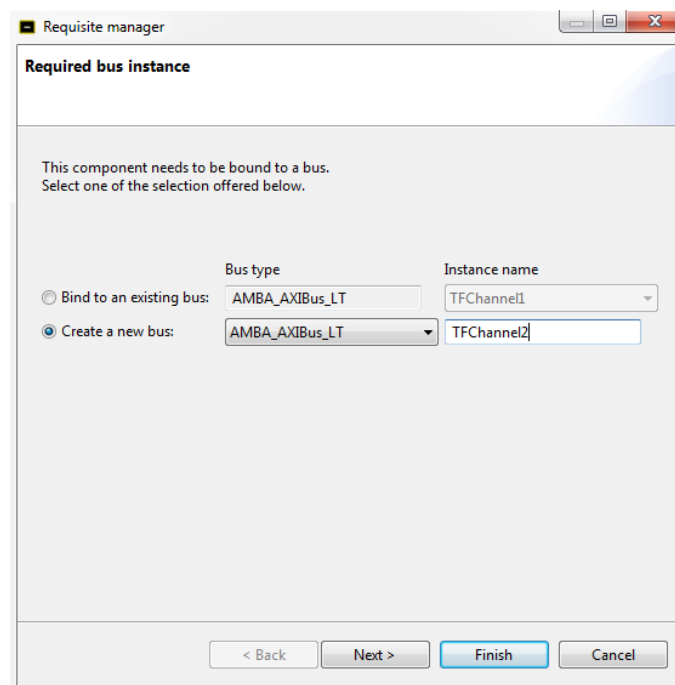

Figure 9 Selection of a second bus
4. A window will appear asking if you want to bind the μ Blaze on the existing bus (*TFChannel1*) or create a new bus. This time, select **Create a new bus** (**AMBA_AXIBus_LT** as **Bus type** and *TFChannel2* as **Instance name**, see Figure 9) and click **Next**. You should see a small window listing the support peripherals added for the second μ Blaze. Click **Finish** on that small window.